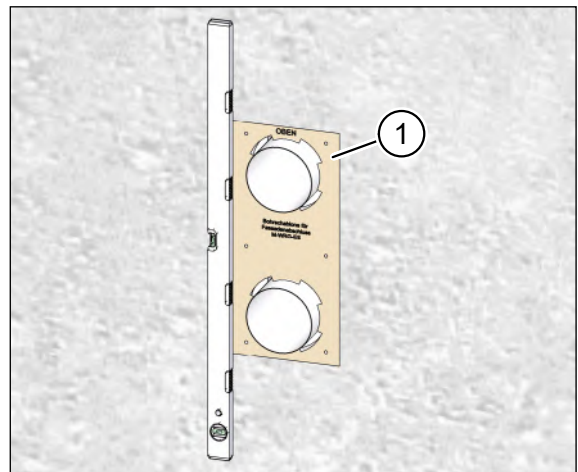

Fig. 23: Ventilation pipes on the outside of the wall
- ▶ Push the drilling template for the outer wall terminal (item 1 in Fig. 23) over the ventilation pipes.